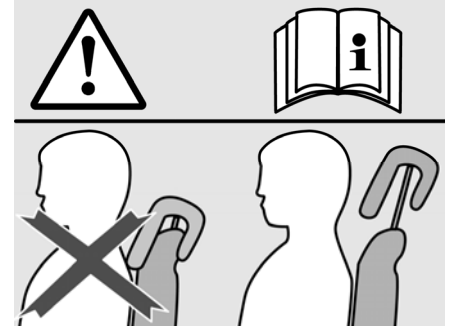

Fig. 32 Correct adjustment of the headrests
- Pull the headrest upward or push it downward until reaching the desired position (Fig. 32).